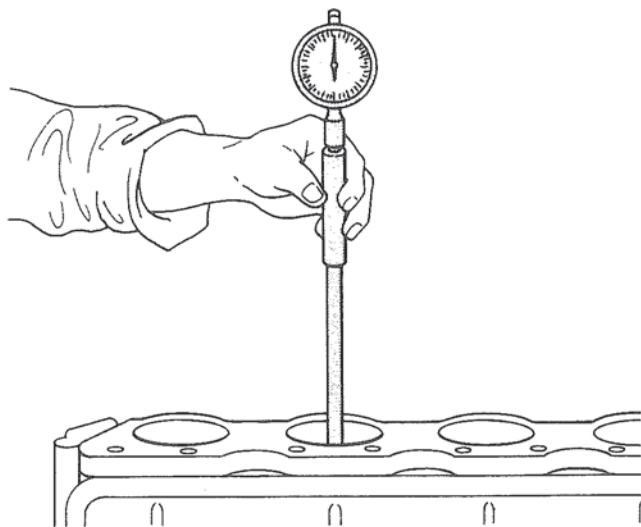

Figure 23. Measuring I.D. of Liner.
1. Measure liner I.D. using a dial readout micrometer or inside micrometer. Figure 23.